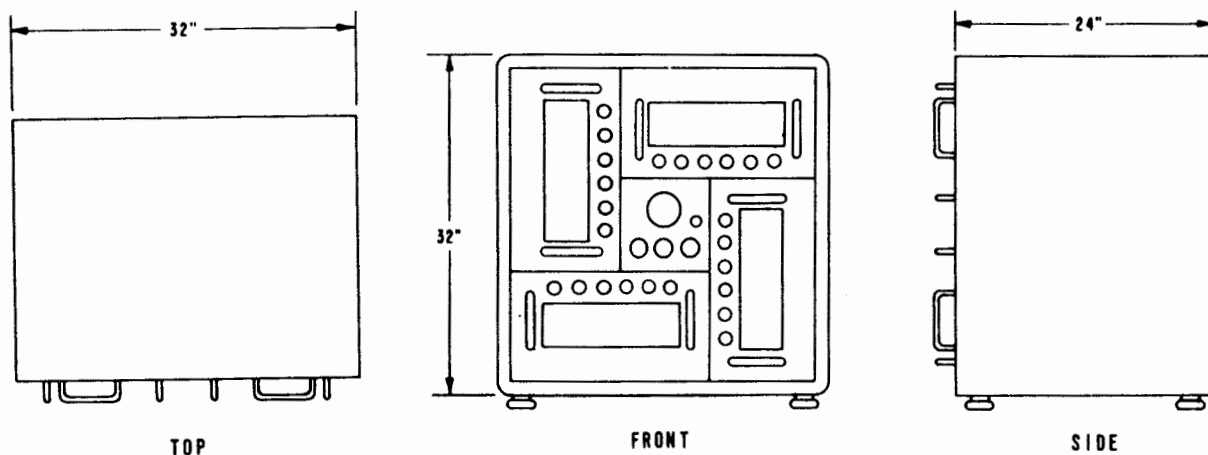

Figure 2-10 Antenna Coupler CU-1559/SRC Physical Configuration
- b. PHYSICAL CONFIGURATION. - See Figure 2-10.